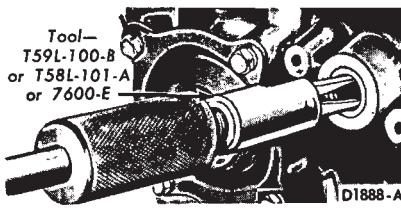

FIG. 55—Removing Manual Lever Seal
8. To remove the manual lever seal, use the tools shown in Fig. 55. To install the new seal, use a driver that fits the ID of the seal.